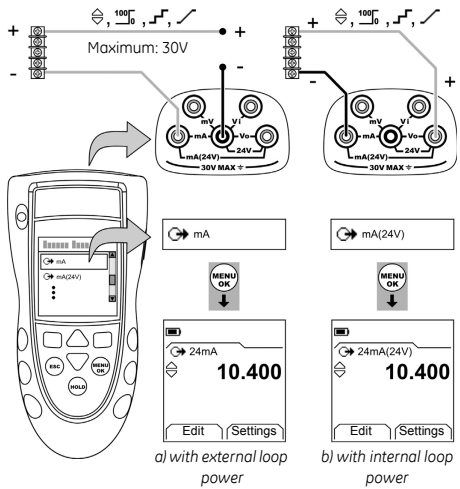

Figure 3: Example configuration - To supply mA
- 1. Connect the instrument (Figure 3) and, if necessary, adjust the *Set Up* (Table 1).